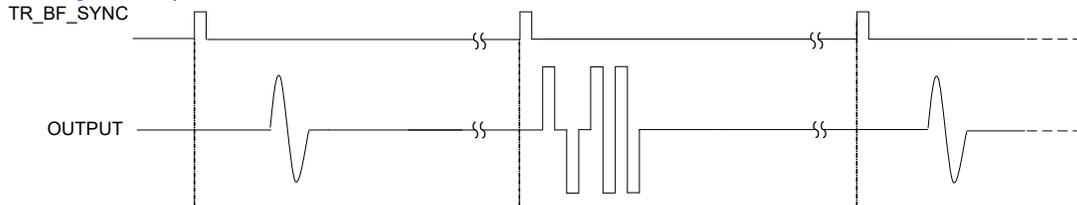

Figure 1-1. HTOL Pattern
3. The pattern transmitted by the linear amplifier is a single cycle, 5MHz, 180Vpp pattern which drives a load of 220Ω||220pF, while that transmitted by pulser is 200Vpp and covers all the possible device transitions (shown in Figure 1-1).